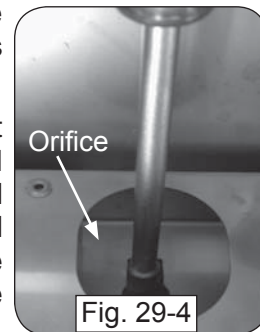

Fig. 29-4
5. Use a $\frac{3}{8}$ " hex nut driver to remove the exposed orifice (Fig. 29-4) and replace it with the correct orifice for the new gas. (See Table 1 at the beginning of this document for orifice sizes.)